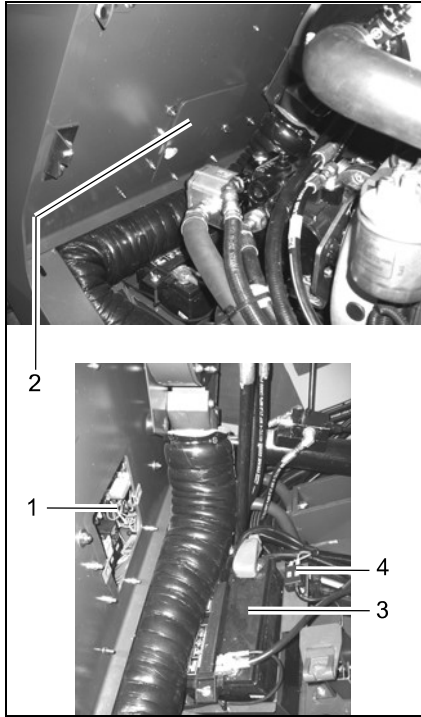
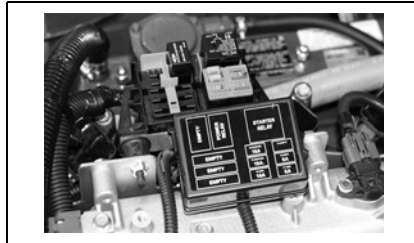

Fig.23
Fig.24
The fuse box (Fig. 23/1) is located under a cover (Fig. 23/2) above the battery in the engine compartment. Remove the wing bolts and the cover. The individual circuits are protected by fuses.
Other fuses are located in the engine compartment (Fig. 23/4). The fuses for the engine are in a box on the engine (Fig. 24).
The negative pole of the battery (Fig. 23/3) must be disconnected from the battery before the positive pole. This prevents short circuiting and injuries!
- F0 Main fuse (50A) (Fig. 23/4)
- F18 Fuse (40A), option (Fig. 23/4)